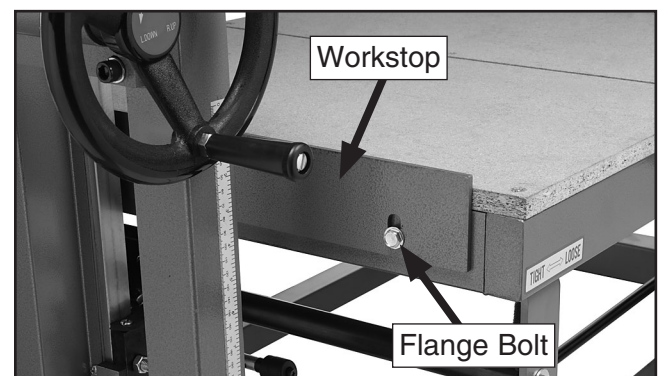

Figure 39. Table workstop.
1. Loosen the flange bolts that hold the workstop to the table (**Figure 39**).